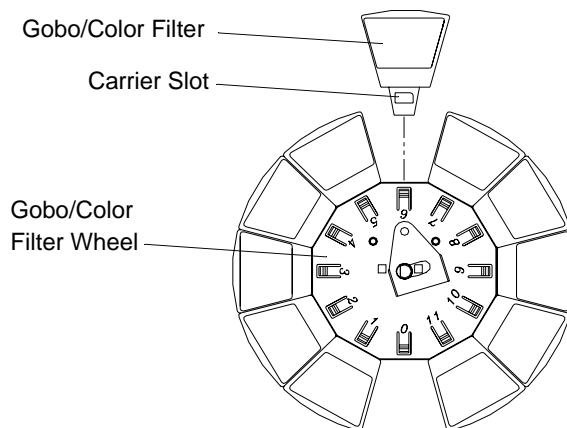

Figure 2-4: Standard Gobo/Color Filter Replacement
Note: In some cases it is easier to slide bulkhead partially out of head assembly to access gobos/filters. To do this, use #2 Phillips screwdriver to two 6-32 PPZ screws and slide bulkhead upward. Figure 2-4.
- Step 5. Using fingers, pull gobo/filter out of wheel. Figure 2-4.